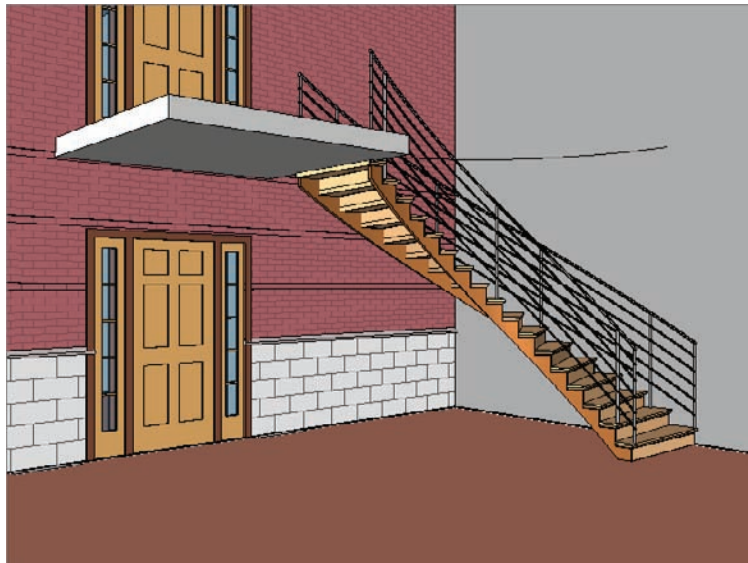

FIGURE 10.49 The almost-completed stairs
3. Go to the East Entry From Corridor view. Does your stair and railing system look like Figure 10.49?